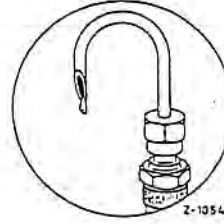

Fig. 00-8/6
5. Connect the fuel tank (7) to the injection pump, fill it with clean fuel and open the stop cock of the fuel tank (Fig. 00-8/3).